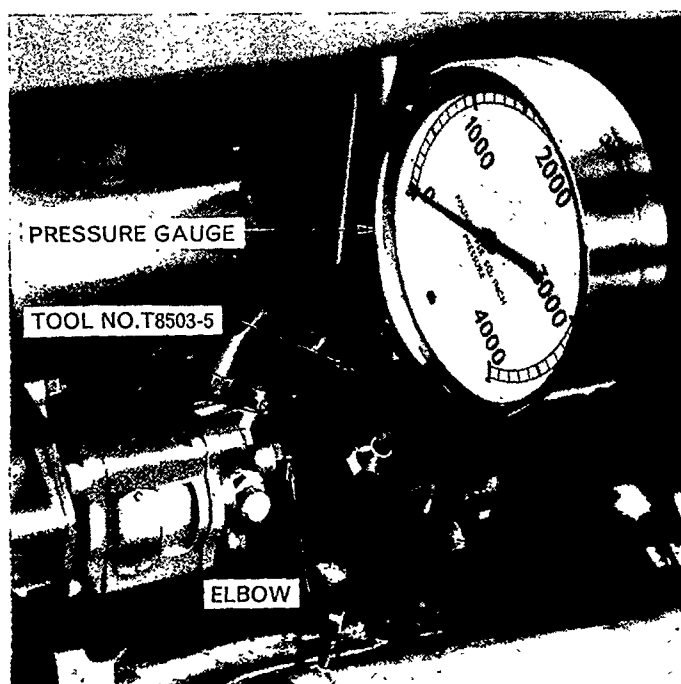

Figure 28
13. Disconnect the pump pressure pipe from the pump and connect the T.8503 pressure gauge and T.8503-5, Figure 28, adaptor or use 'Imperial Brass, Female coupling (Female Flare to Male Pipe Thread) No. 664-F- $\frac{3}{8}$ " $\frac{5}{8}$ "-18 $\times$ $\frac{1}{4}$ " with $\frac{1}{4}$ " $\times$ $\frac{1}{4}$ " pipe coupler and Gauge No. N-1100-3. Start the engine and obtain a reading on the gauge of the pump relief valve setting. Refer to the specifications section for the correct setting.